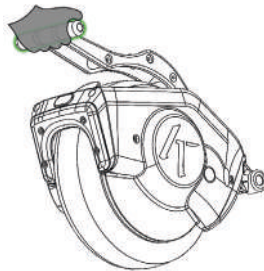

Figure 25
- Grab the TWIST R from the handle (Figure 25).